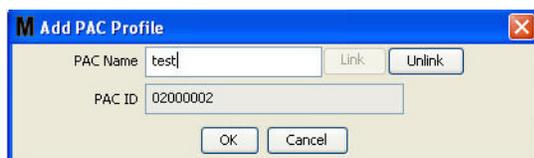

FIG. 131
5. The PAC ID number displays in the PAC ID field (FIG. 131). Click OK to close the screen and save the changes.
Notice the “Link” button in FIG. 131 is no longer active and instead an “Unlink” button is active. Clicking the “Unlink” button breaks the association between the PAC and the Matrix PC.